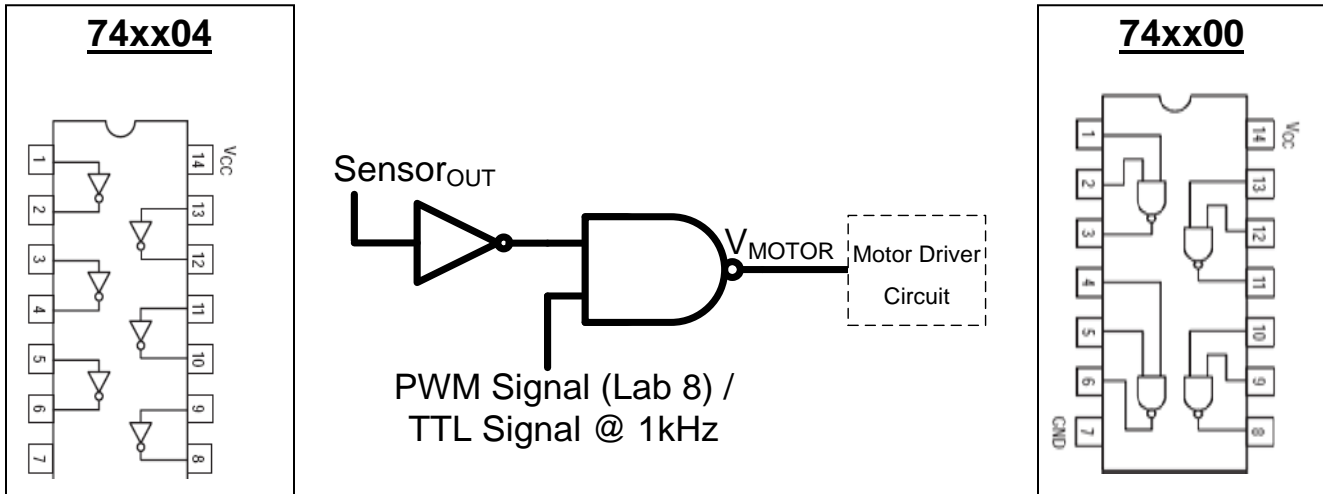

Fig. 3: Schematic of Logic Circuit.
- 1) Build the circuit as shown in Fig. 3.